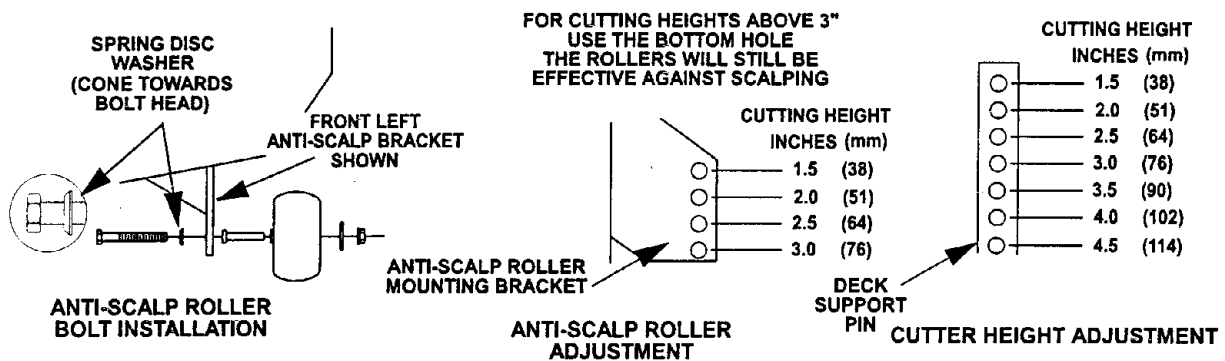

FIG 7
- a) Install hairpin clips in the holes shown on sketch below for the desired cutting height (See Figure 7).
- b) For maximum deck flotation, rollers should maintain 1/4 in. (6.4 mm) clearance to ground. Do Not adjust rollers to support the deck. Be sure roller bolts and nuts are installed with the spring disc washer between head of the bolt and mounting bracket (See Figure 7). Torque to 40-45 ft-lbs, or loss of roller may result.
- c) When operating in extremely rough conditions it may be necessary to position the anti-scalp rollers one or two holes higher than described in "b" to prevent damage to the rollers and/or bolt failure (See Figure 7).